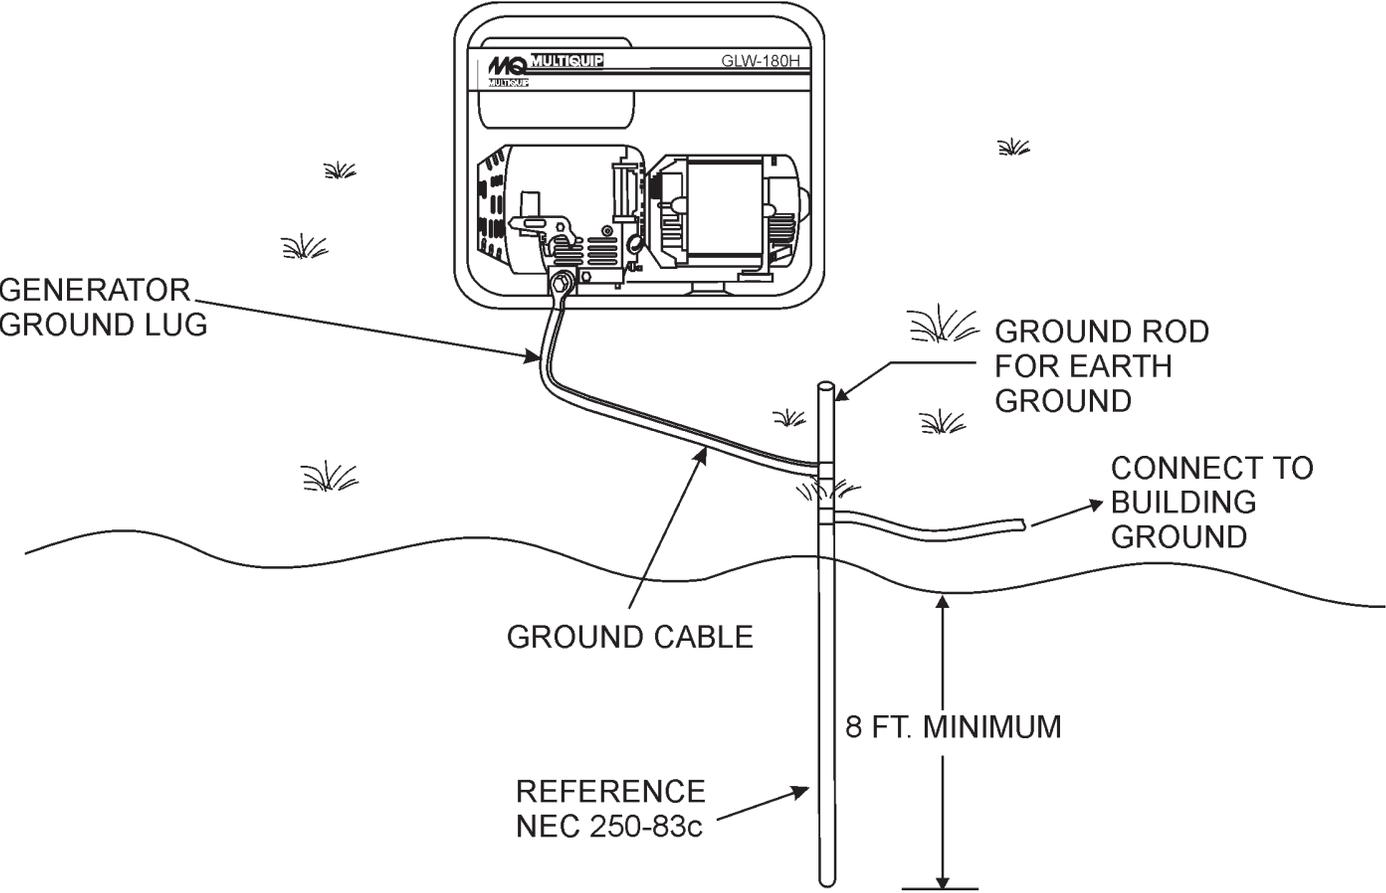

Figure 3. Generator Ground Rod Application
- 12. Chassis Ground** – Connect earth ground (**ground rod**) to this lug. See Figure 3.
Article 250 (Grounding) of the National Electrical Code (NEC) provides guide lines for proper grounding and specifies that the cable ground shall be connected to the grounding system of the building (Figure 3) as close to the point of cable entry as practical.
2. When grounding the generator (Figure 3) connect the ground cable between the lock washer and the nut on the generator and tighten the nut fully. Connect the other end of the ground cable to earth ground.
Connect the terminal of the ground wire between the lock washer and the nut at the base of the generator and tighten the nut fully. Connect the other end of the ground wire to a **grounding rod** as shown in Figure 3.